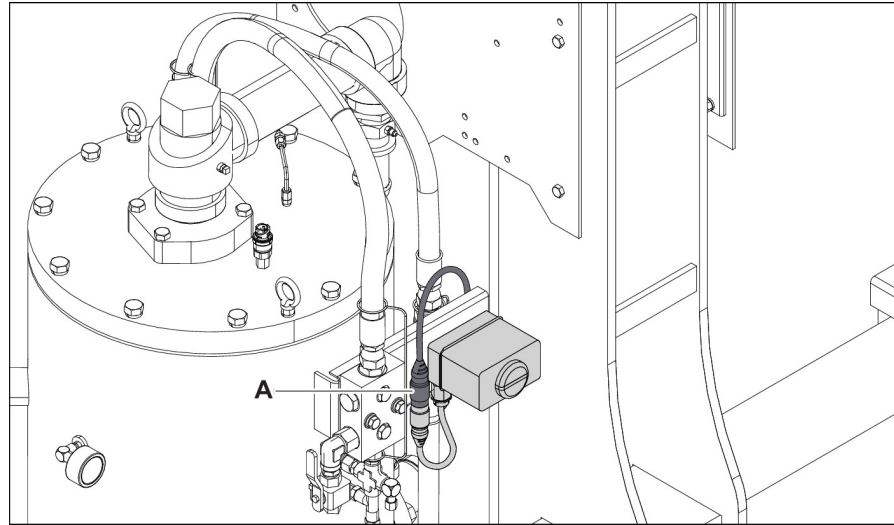

Figure 3
8. Disconnect the electrical connection (Figure 3, item A) of the EARS actuator. Wrap the connectors inside a plastic bag or some other form of protection.